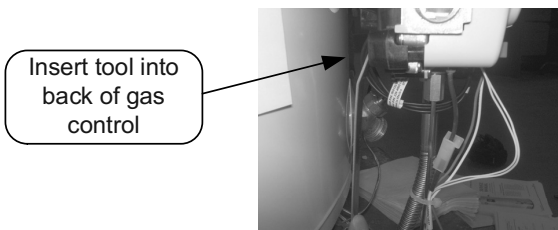

Figure 32
- Step 4. Using the gas control service tool (part number 239-45991-00) available from your Bradford White parts supplier, insert tool into the back of the gas control (see Figure 32 & 33).